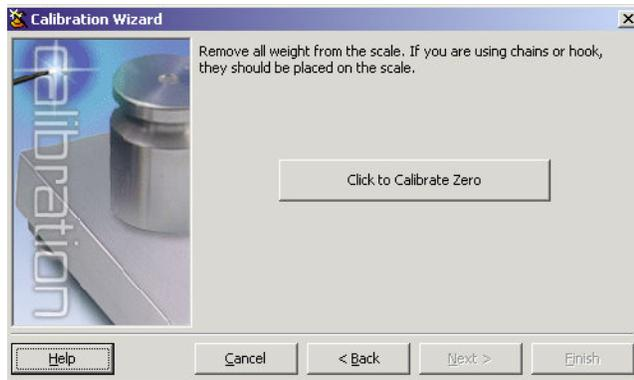

Figure 4-6. *iRev Zero Calibration Display*
- Remove all weights from the scale. If chains or hooks are used, place them on the scale. Press the *Calibrate Zero* button to perform the zero calibration (see Figure 4-6). A message box appears when the process is complete.